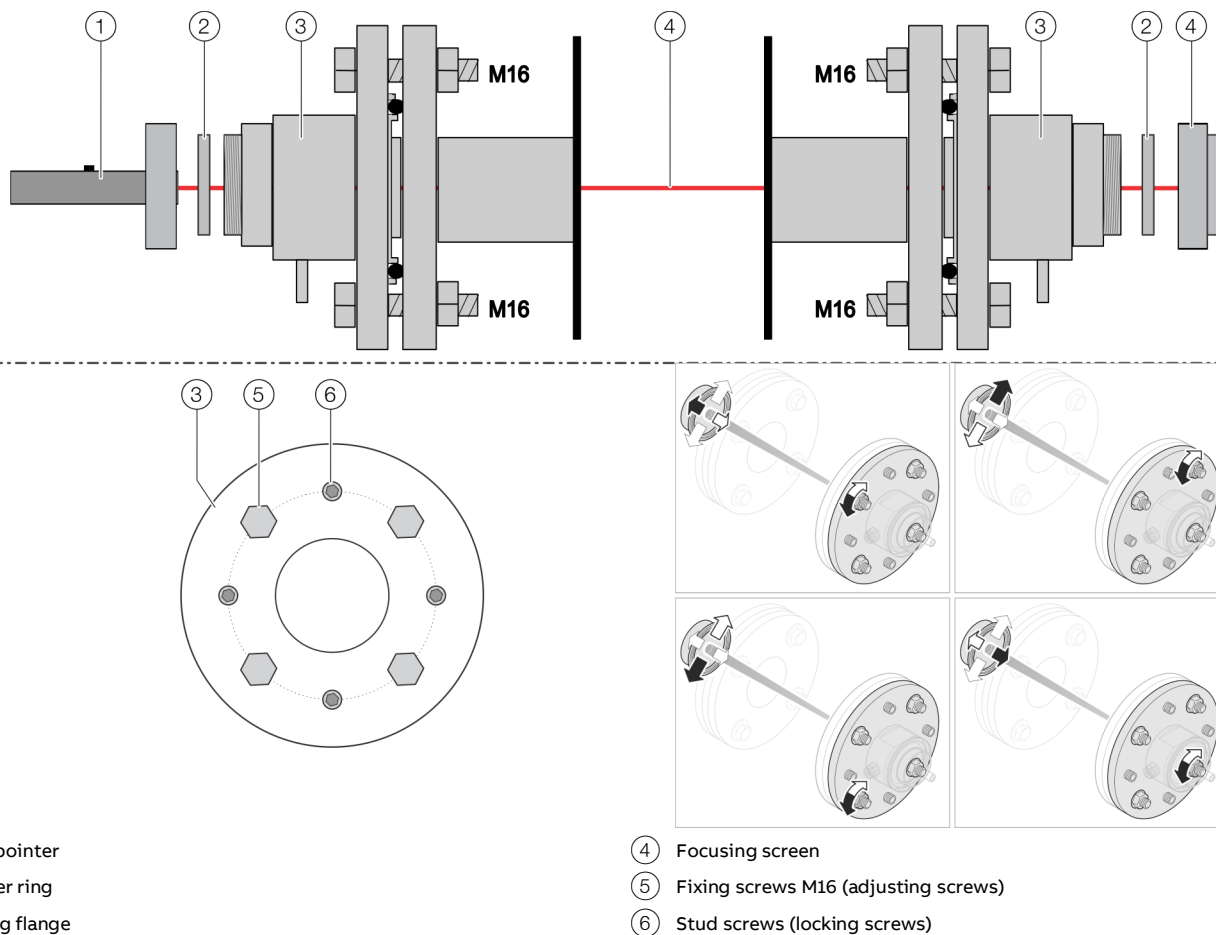

Figure 38: Installing the laser alignment tool and aligning the flanges
2. Remove the adapter ring (item ② in **Figure 38**) from the purging flange.
- 1. Unscrew the 6 stud screws (item ⑥ in **Figure 38**) until the ends of the screws no longer stick out of the holes.
- 3. Align the purging flanges by adjusting the 4 screws (item ⑤ in **Figure 38**) until the laser beam hits the center of the focusing screen.
2. Unscrew the 6 stud screws (item ⑥ in **Figure 38**) until the ends of the screws no longer stick out of the holes.
3. Carefully adjust the voltmeter display to the maximum value using the receiver-side adjustment screws (item ⑤ in **Figure 38**).
5. Carefully adjust the voltmeter display to the maximum value using the receiver-side adjustment screws (item ⑤ in **Figure 38**).